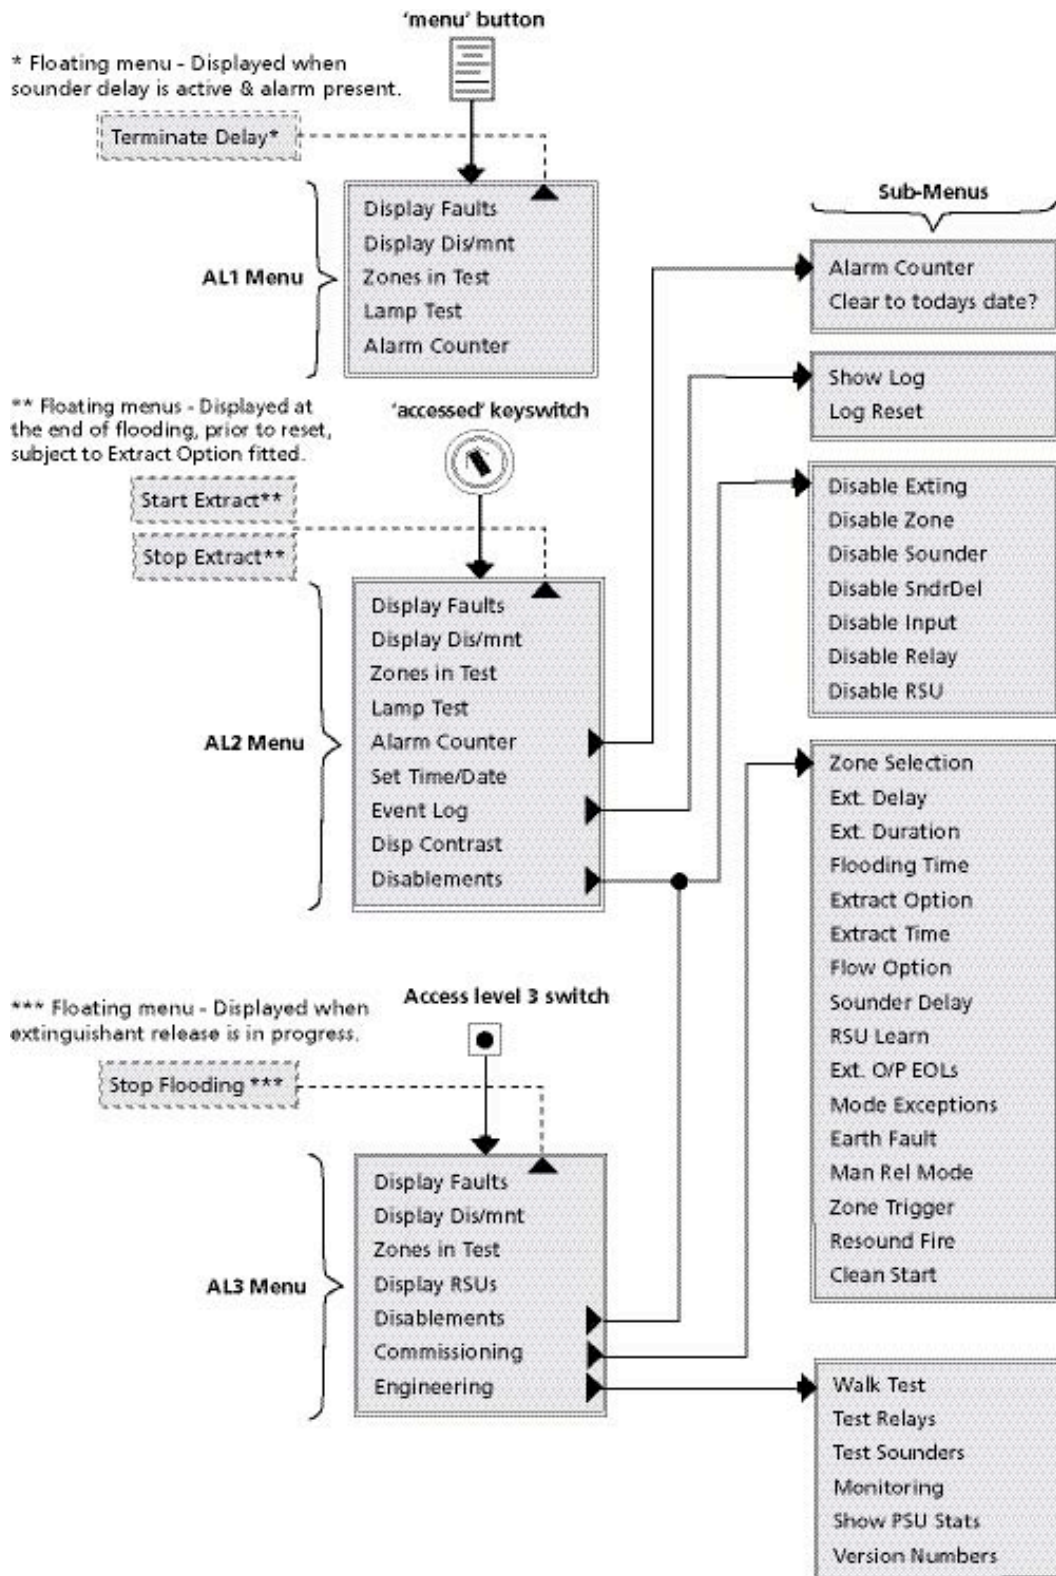

Figure 1 : Overview of Access Level Menus
- Pushbutton and keyswitch entry to three access levels (displayed on the LCD unit). Access Level 1 (AL1) is for general users, Access Level 2 (AL2) is for authorised users and Access Level 3 (AL3) is for engineers. See Figure 1, below.